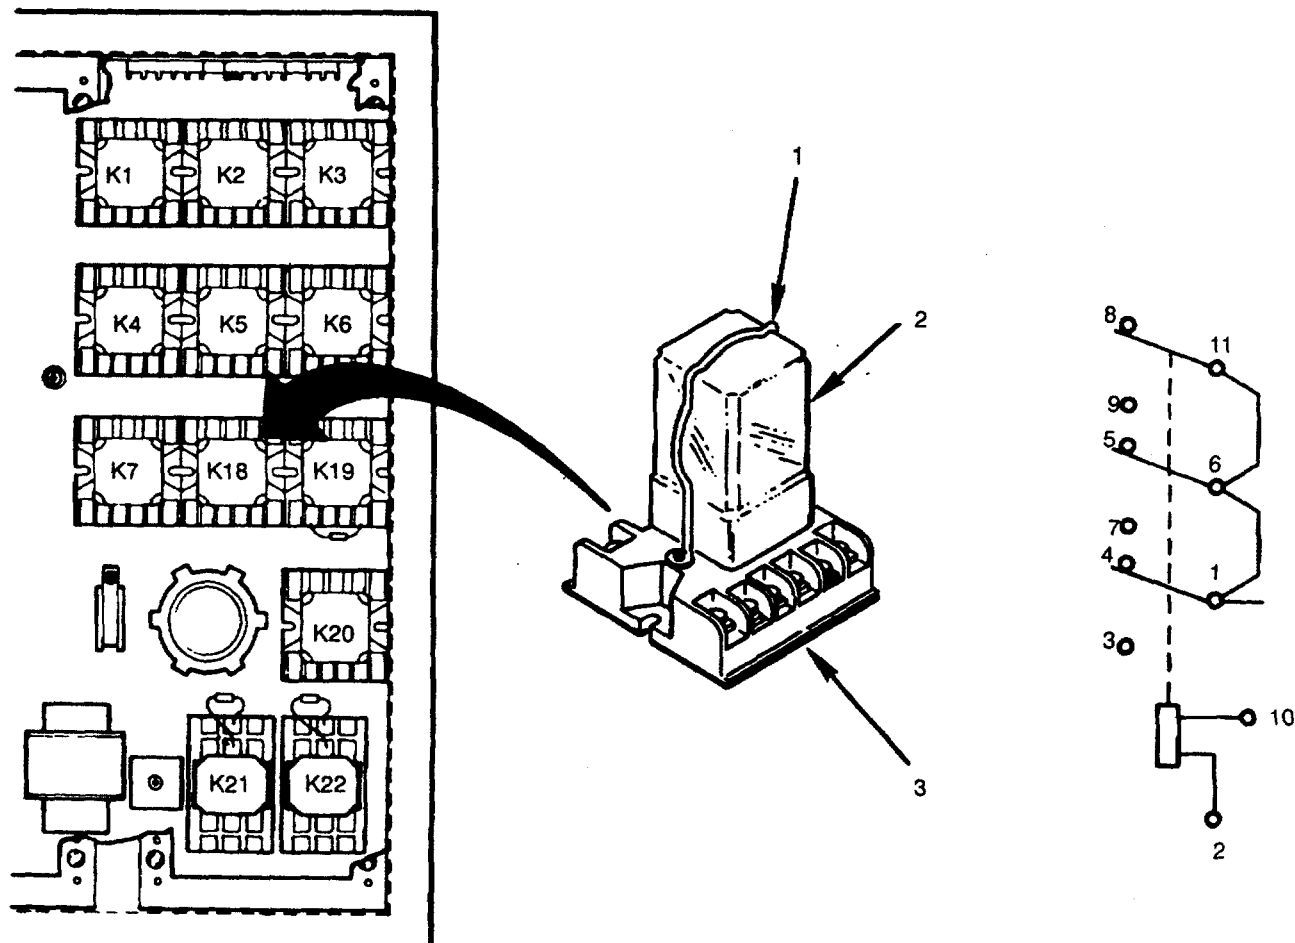

Figure 4-52. Control Relays (K1 - K7, K18 - K20)
1. Slip wire retaining clip (1) off relay (2) (see Figure 4-52).
2. Pull relay (2) from 11-pin socket (3).